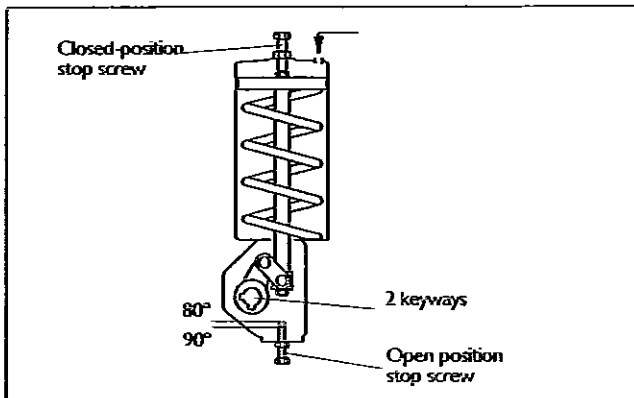

Fig. 6. B_J actuator
Install the actuator on the valve with the piston in the upper end of the cylinder and the valve in the closed position, see Fig. 6. The cylinder must be depressurized and the air ports open. Adjust the closed-position setting using the stop screw (26) at the end of the cylinder. Seal the screw thread with a non-hardening sealant, such as Loctite 225 or the equivalent. The open-position setting is adjusted with the stop screw (27) at the bottom of the housing while the actuator is pressurized and the piston is in the lower position.